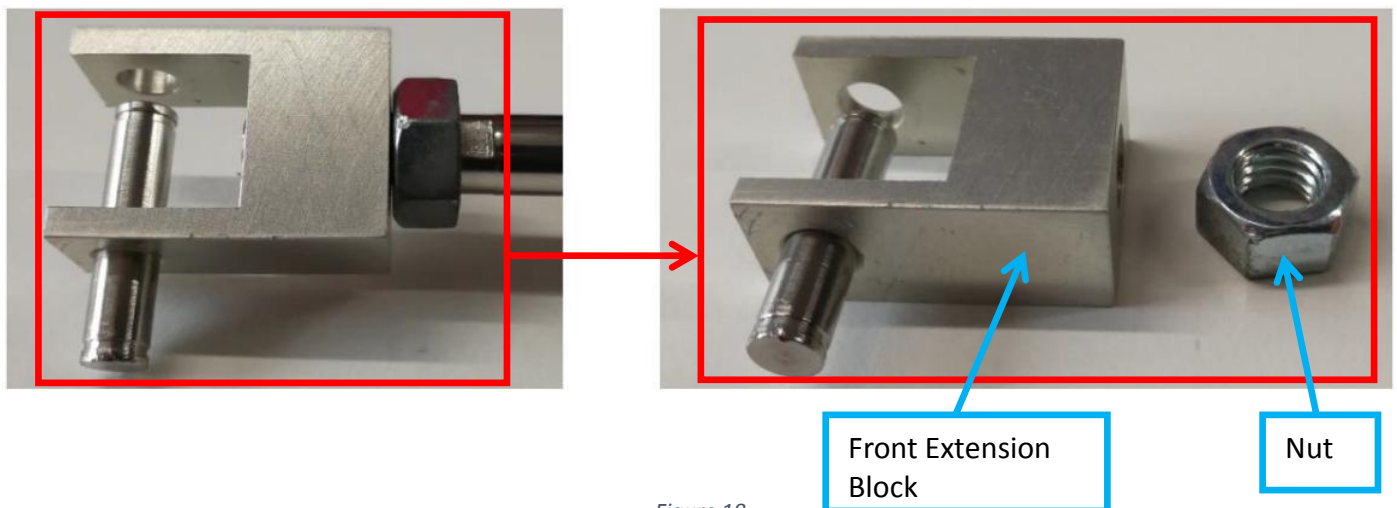

Figure 18
22. Assemble Nut & Front Extension Block (With Dowel Pin) at Outer Barrier Cylinder as Figure 18